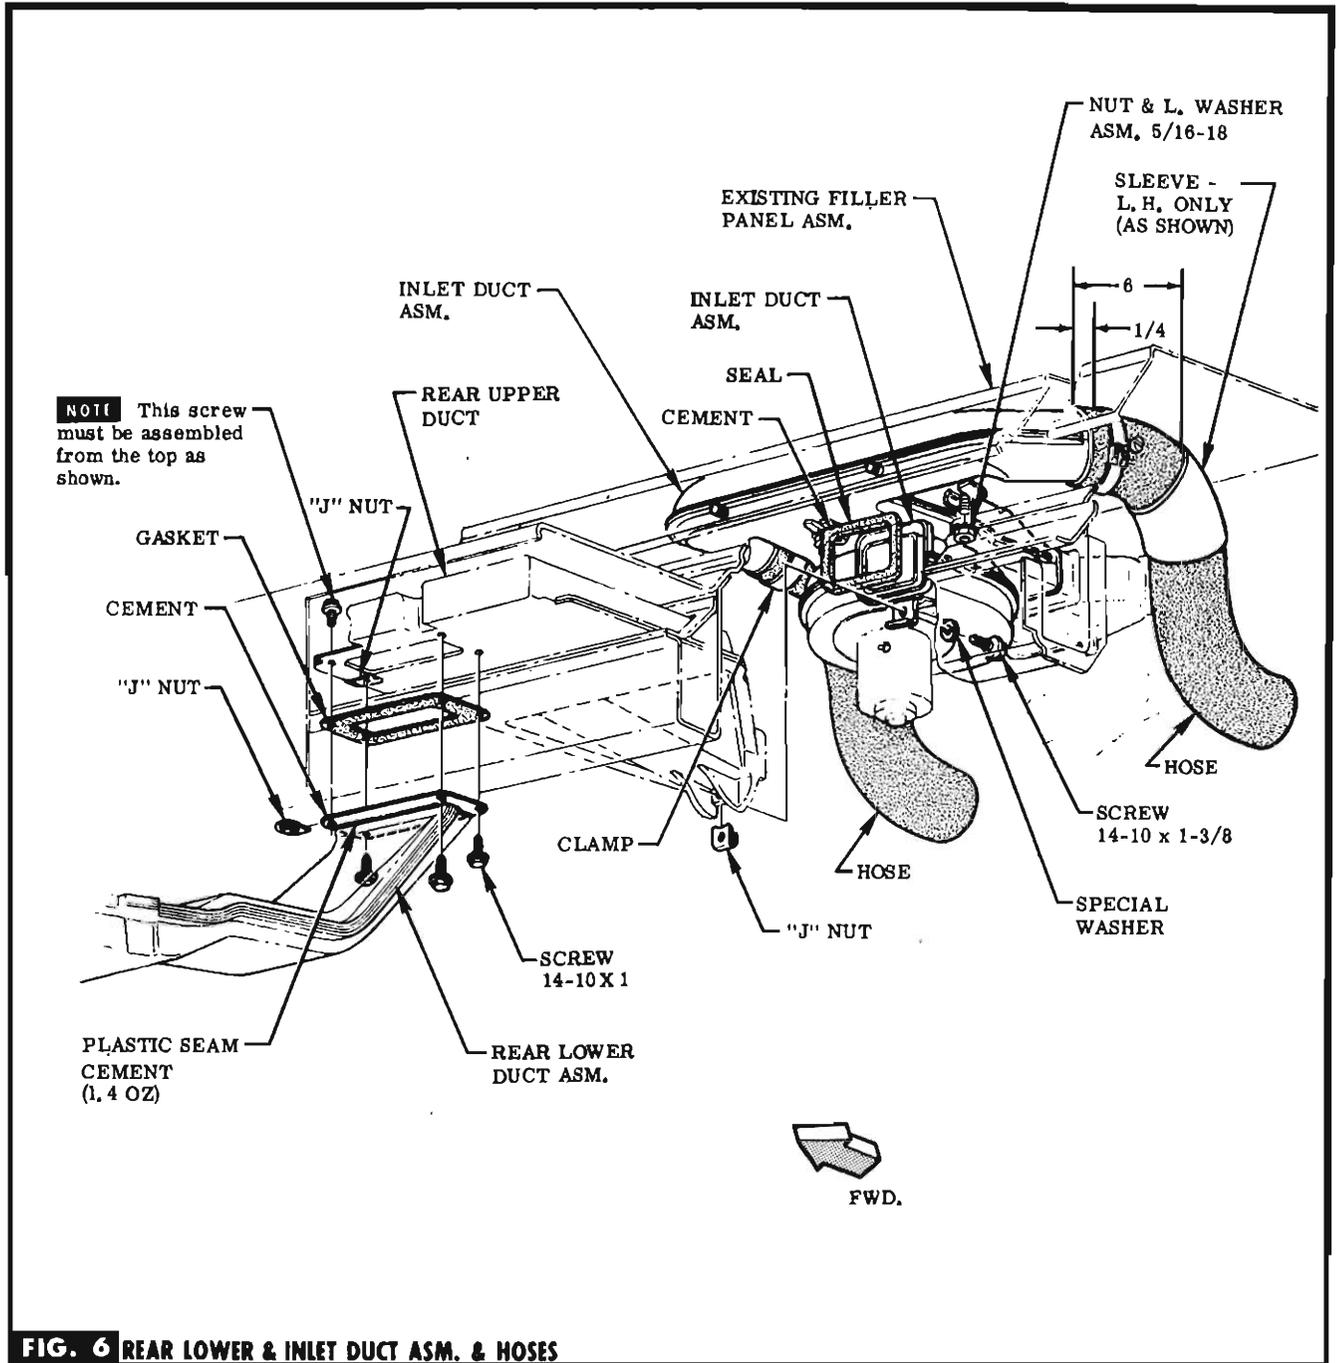

FIG. 6 REAR LOWER & INLET DUCT ASM. & HOSES
STEP 29 SLIDE CLAMPS (IN BAG D) & SLEEVE (L.H. ONLY) ONTO HOSES. SEE FIG. 6.
STEP 30 SLIDE HOSES ONTO INLET DUCT & TIGHTEN CLAMPS. SEE FIG. 6.
STEP 31 LOOSELY INSTALL NUT ASM. (IN BAG C) TO FILLER PANEL. SLIP INLET DUCT ASM. ONTO STUDS & TIGHTEN. SEE FIG. 6.
STEP 32 SLIP J-NUTS (IN BAG C) INTO REAR UPPER DUCT. CEMENT SEAL TO INLET DUCT. SEE FIG. 6.
STEP 33 LOWER FILLER PANEL IN PLACE & ATTACH INLET DUCT TO REAR UPPER DUCT WITH SCREW, WASHER (IN BAG C). SEE FIG. 6.
STEP 34 ATTACH J-NUT (IN BAG B) & CEMENT GASKET TO REAR UPPER DUCT & CEMENT ALL AROUND JOINT OPENING ON REAR LOWER DUCT. SEE FIG. 6.